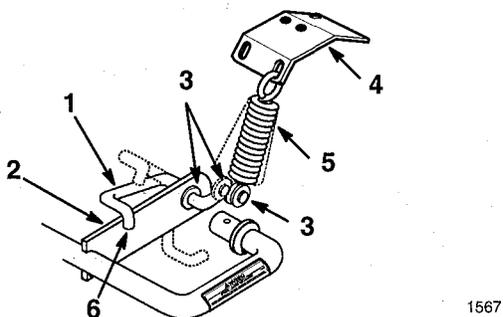

Figure 21
8. Unhook rod handle from lift arm and rotate down, to relieve spring tension (Fig. 21). Unhook lift assist spring from between welded washers on rod.
9. Slide rod handle out of hole in tractor lift arm (Fig. 21).
10. Unhook lift assist spring from slot in mounting bracket under left fender (Fig. 21).